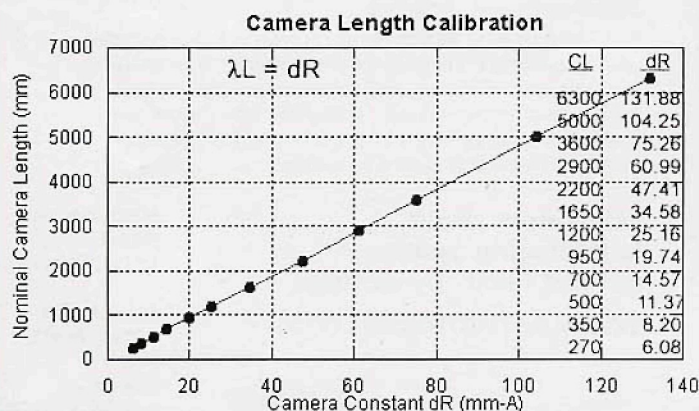

Figure 4
length (L) that you don't know accurately. However, you are measuring off a crystal where you do know a lattice spacing (D) very accurately; for example, silicon is known to 8 or 10 decimal points, the most highly characterized material on the planet earth because of the semiconductor industry. So you have this fabulous value of what this highly traceable standard is and then it is all up to you as to how accurately you can measure that diffraction ring radius (R, in mm) or the spacing between those spots. Then you come up with a little chart like Figure 4. Let's say if you are using your camera length of 270 you take and make a measure of a radius that is say 6 mm. You know that 6.08 divided by 6 corresponds to a lattice spacing of 1.013 Å.